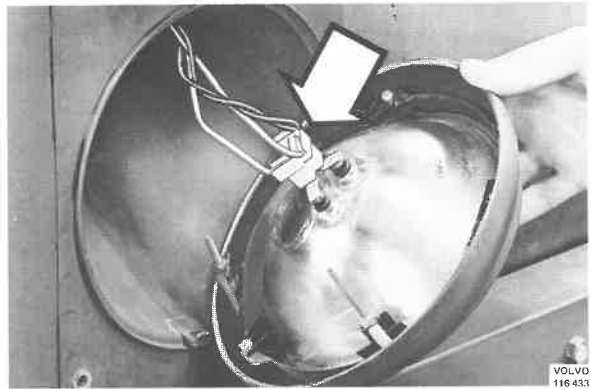

Fig. 35-4. Headlamp insert (Sealed Beam)
2. Lift forwards the rim with insert and retainer ring. Remove the connector from the insert, Fig. 35-4.